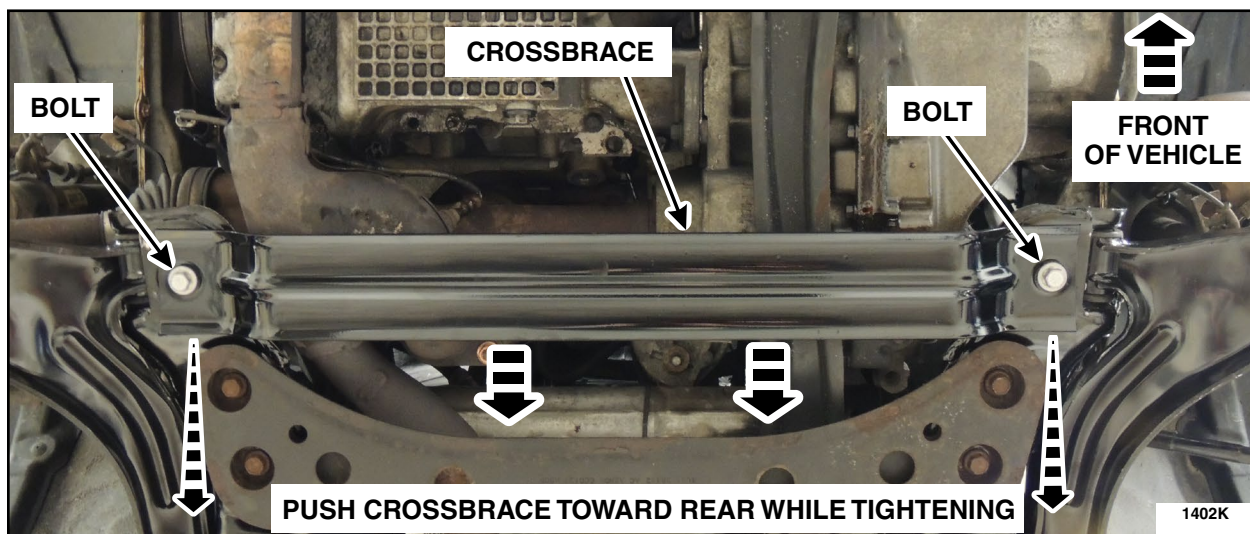

FIGURE 5
3. Install the crossbrace and two bolts onto the forward LCA attachment locations of the subframe. See Figure 5.